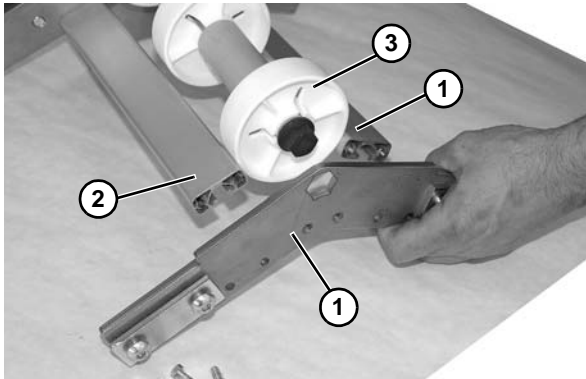

Figure 114
11. Remove backing plate (**Figure 114, item 1**), from both cross supports (**Figure 114, item 2**) and roller assembly (**Figure 114, item 3**).